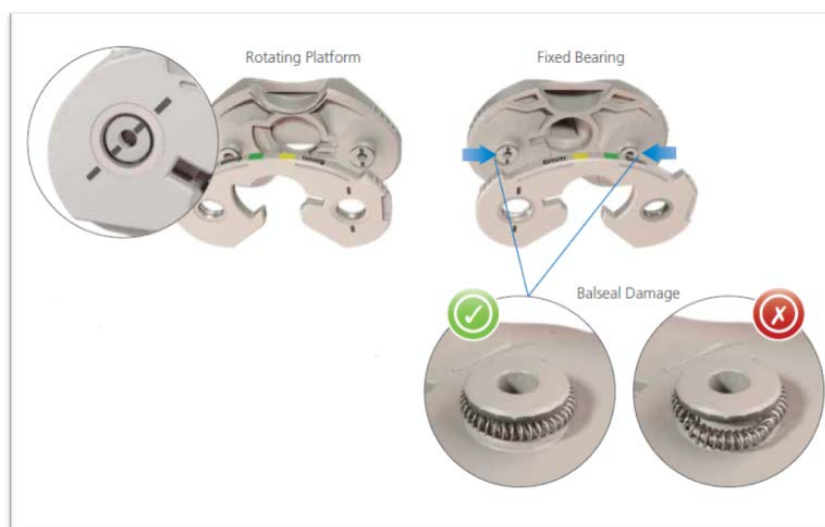

Figure 2: Image is From the ATTUNE® INTUITION™ Instruments Surgical Technique and Provides a Visual Comparison Between Undamaged and Damaged Balseals
- a) “Check for Balseal damage. If damage is observed, replace the damaged instrument.” See *Figure 2*.